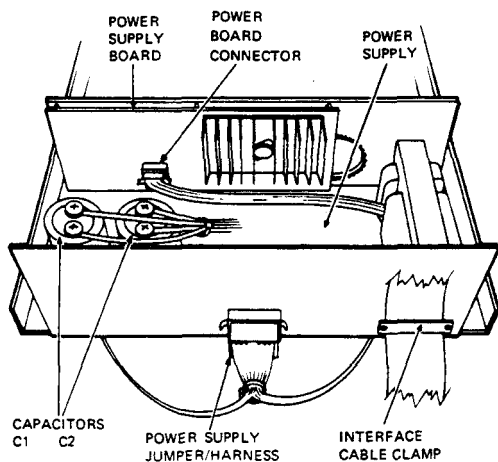

Figure 2-8 Power Supply Components
Perform the following procedure to remove and install the power supply. Refer to Figure 2-8 and 2-9.
2. Remove the jumper/harness plug from the rear of the power supply (Figure 2-8).
4. Remove the interface cable clamp if applicable (Figure 2-8).
Perform the following procedure to remove and install the power board assembly. Refer to Figures 2-8 and 2-9.
2. Disconnect the connector from the center of the power supply board (Figure 2-8).
4. Note the polarity of the leads on capacitors C1 and C2, and then remove the leads (Figure 2-8).